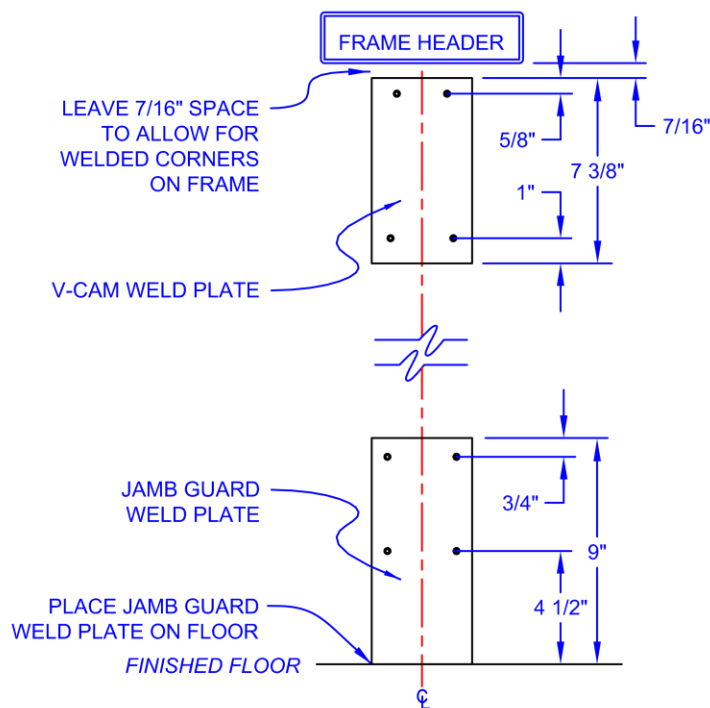

FIGURE 1
2. Locate the Weld Plates and determine which is for the Jamb Guard (Floor) and which is for the VCam (Top), See Figure 1 and Figure 2-A..
3. The Jamb Guard Weld Plate will sit on the Floor and Centered in the Jamb, See Figure 1 (threaded studs must be oriented as shown).
5. Place the V-Cam Weld Plate 7/16" from the Top of the Frame Jamb at Header, See Figure 1. **PROPER PLACEMENT OF THIS WELD PLATE IS EXTREMELY CRITICAL!**